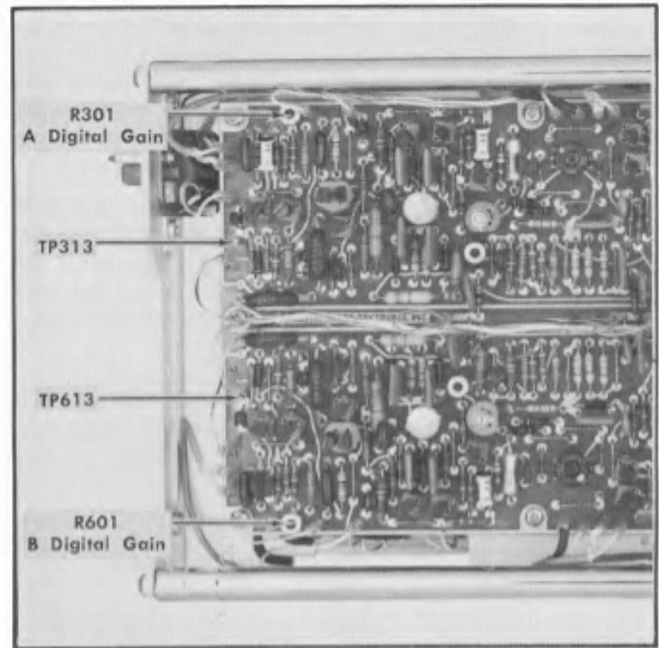

Fig. 5-14. Locations of Digital Outputs in the Type 352.
e. Connect the  $1\times$  probe from the Type W A Input to the sampling unit Digital Output. In the Type 3S2, connect to TP313 for Channel A operation or TP613 for Channel B operation (Pin 1 or Pin 3 on the vertically mounted interconnecting plug). See Fig. 5-14 for locations. (Type 3S5 or 3S6, TP 418 CH A, or TP 438 CH B, located on the Output board.)